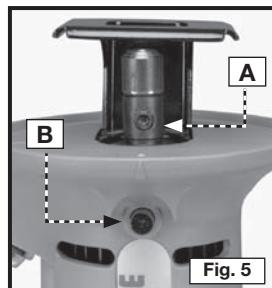

Fig. 5
The Cutout Tool is equipped with a spindle lock to prevent the spindle from rotating when you install or remove bits. To engage the spindle lock, first rotate the spindle shaft (by hand) to position the screw (A) Fig. 5 in line with the spindle lock button (B). Depress and hold the spindle lock button. Rock the spindle back and forth (by hand) to ensure that the lock is engaged.
2. Engage the spindle lock (B) Fig. 5.